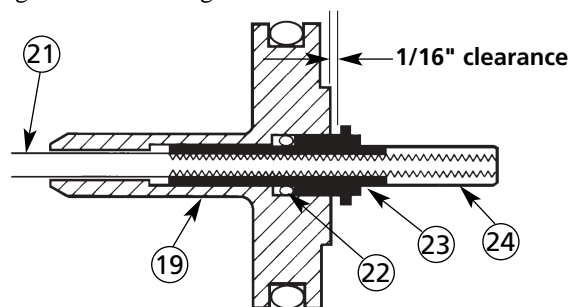

Figure 1
A 1/16" gap between the air piston (19) and needle body (23) should be maintained (see figure 1). This will create needle motion that will allow adequate air flow before the fluid starts flowing. The gap may be adjusted by partially removing the material needle valve (21, 22, 23, 24), screwing the needle (21) either in or out of the needle body (23) and locking it back into the gun while being sure to check the clearance between the air valve piston (19) and the needle body (23).